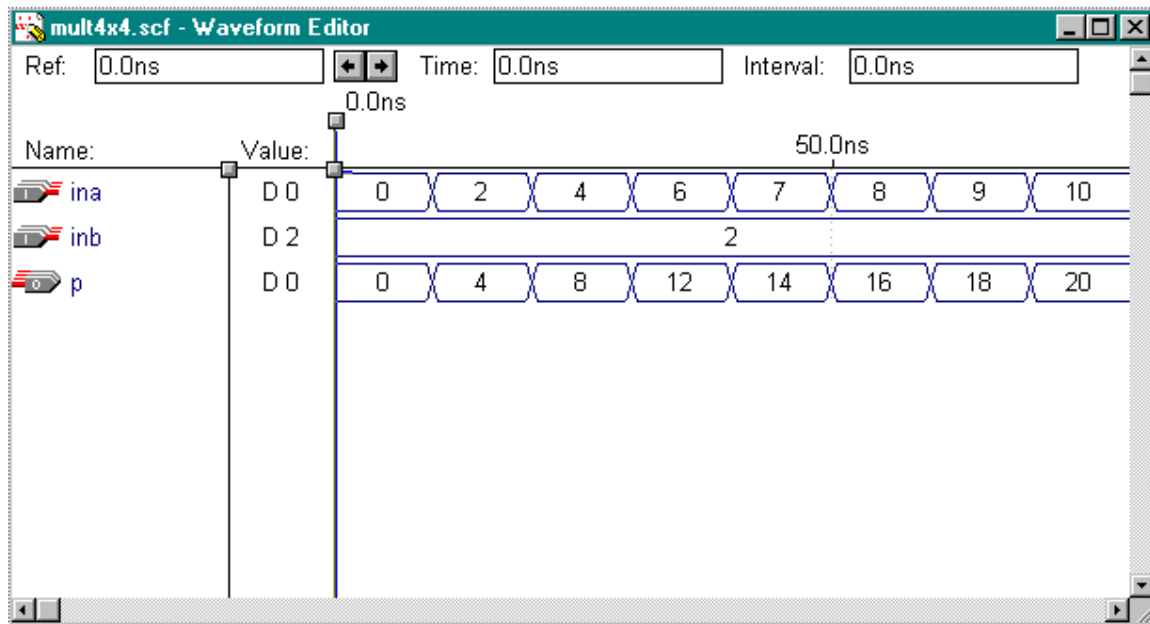

Figure 6-3.
5. Check to see if you get the same results shown in Figure 6-3.